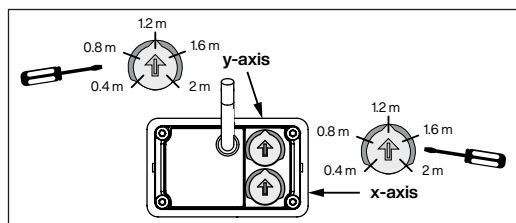

Figure 3: Detection field using potentiometer
**Important:** When mounted horizontally, the cable exit of the sensor in the Figure 3 is always at the bottom.
- The scale is not printed on the sensor. The potentiometer can be adjusted linearly from 0.4 m to 2.0 m; see Figure 3 below.